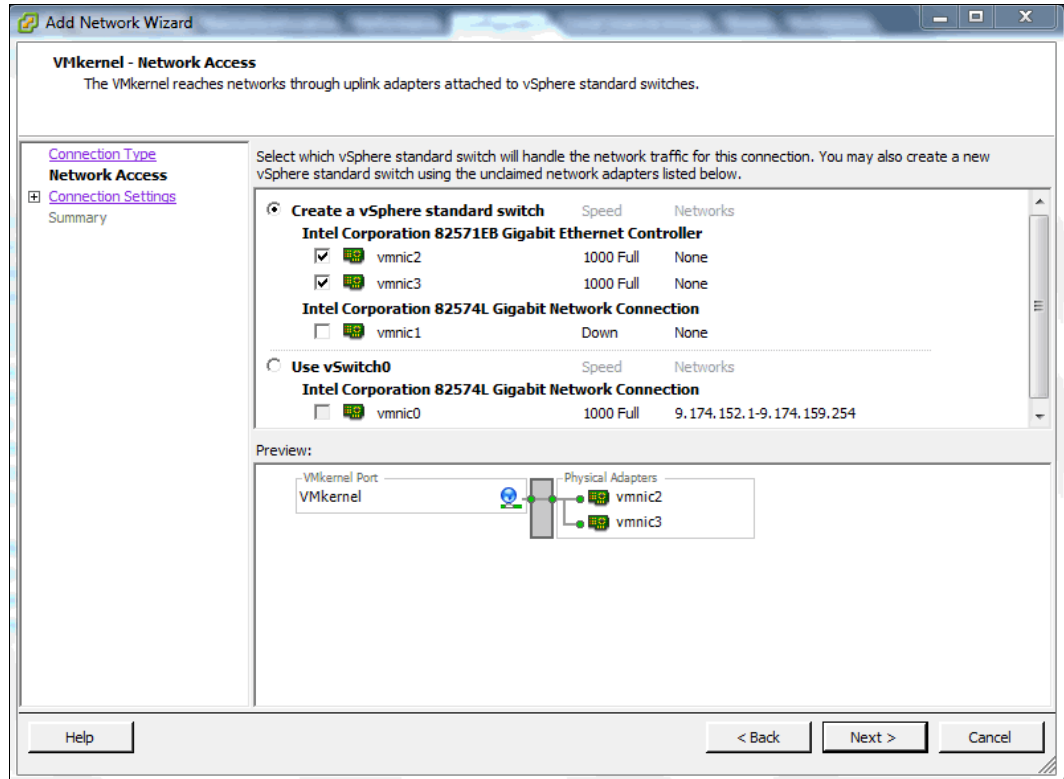

Figure 4-19 Creating a new vSwitch using two physical adapter ports
4. Create a new vSwitch by selecting one or more network interfaces to use for iSCSI traffic and click **Next**, as shown in Figure 4-19.